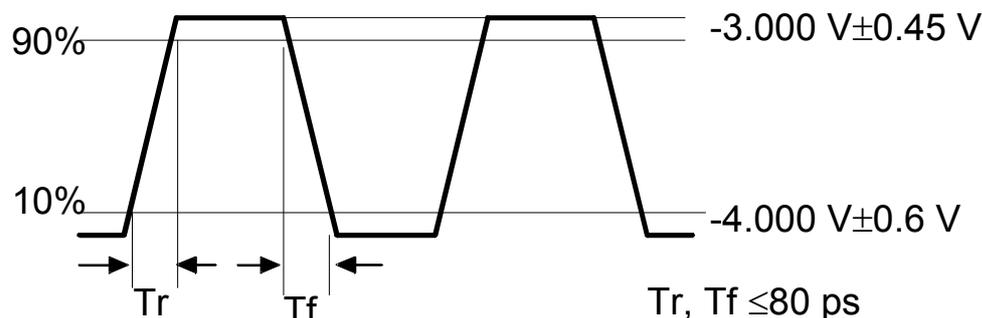

Fig. 8-5 Specifications of clock output waveform (VAR part1)
5. To display waveform, connect all connectors according to Fig. 8-3. Confirm that the level of both waveform is in the range shown as Fig. 8-5 and rise/fall time is 80 ps or less.